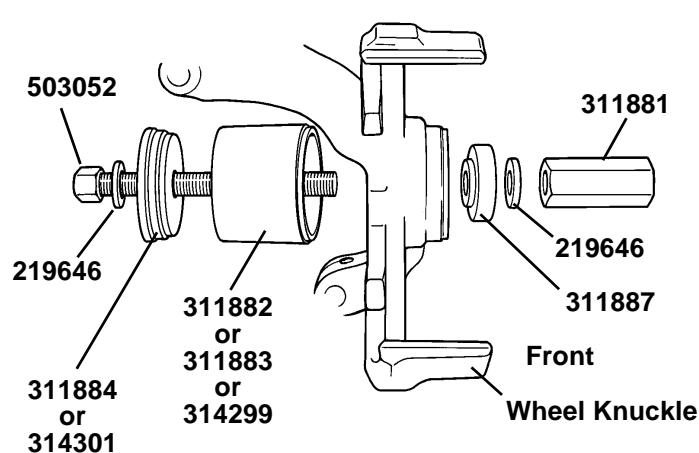

Figure 1
- The **1986-95 Taurus/Sable** application uses the larger tube (No. 311882) with the 2-step adapter (No. 311884). See Figure 1.
- The **1983-94 Tempo/Topaz and 1983-1990 Escort/Lynx** applications use the smaller tube (No. 311883) with the 2-step adapter. See Fig. 1.